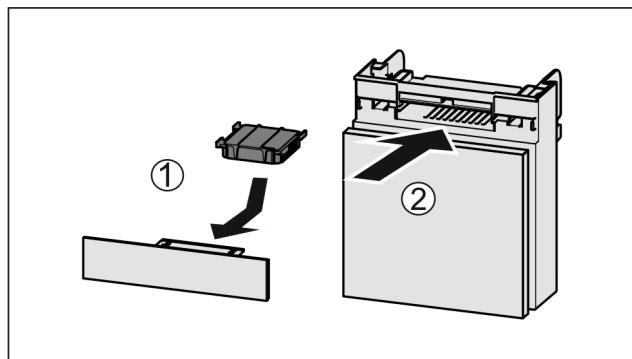

Fig. 117
- Insert the carbon filter as shown in the diagram Fig. 117 (1).
► Push the compartment in Fig. 117 (2).